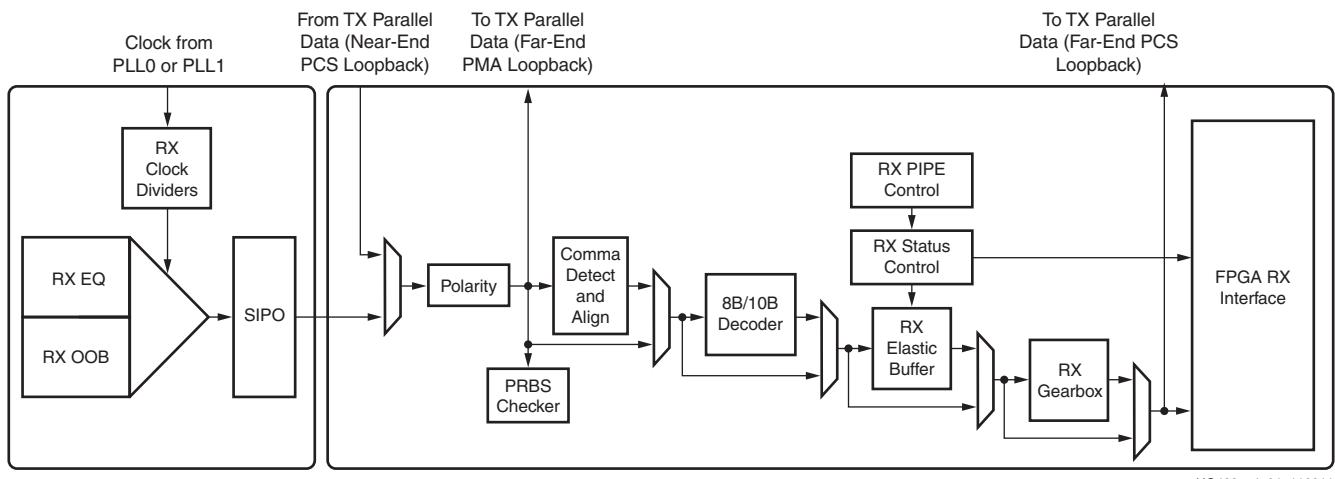

Figure 4-1: GTP Transceiver RX Block Diagram
This section shows how to configure and use each of the functional blocks inside the receiver (RX). Each GTP transceiver includes an independent receiver, made up of a PCS and a PMA. Figure 4-1 shows the blocks of the GTP transceiver RX. High-speed serial data flows from traces on the board into the PMA of the GTP transceiver RX, into the PCS, and finally into the FPGA logic. Refer to Figure 2-9, page 37 for the description of the channel clocking architecture, which provides clocks to the RX and TX clock dividers.
The RX analog front end (AFE) is a high-speed current-mode input differential buffer (see Figure 4-1). It has these features: